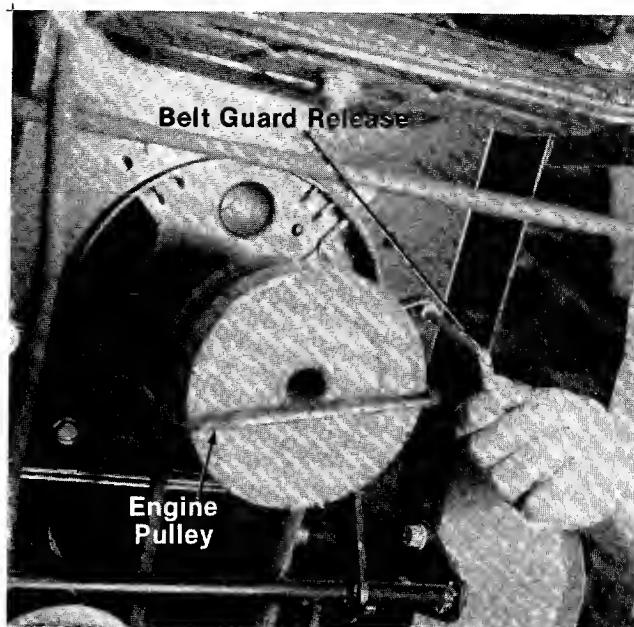

FIGURE 15.
3. Unscrew the belt guard release next to the engine pulley. See figure 15.